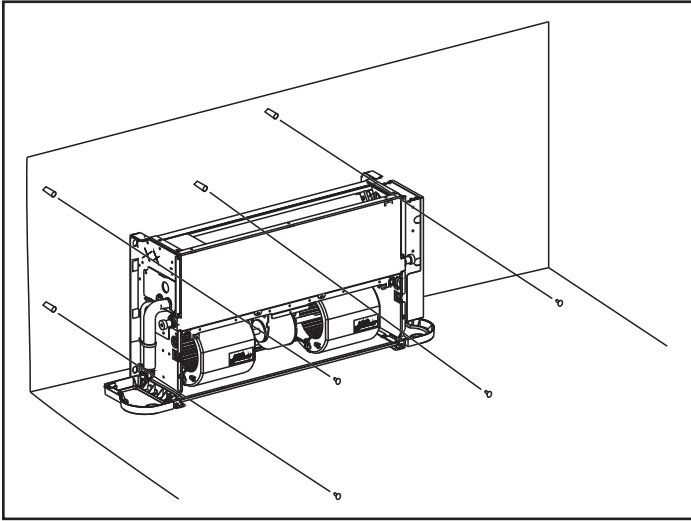

**Figure 1. Remove Casing Assembly (VSC Only)**
1. Remove the unit casing (VSC units only) by removing the six screws shown in Figure 1. After installation is complete, re-install the unit casing by replacing the cover plate and side plate screws. It is not necessary to replace the base screws.